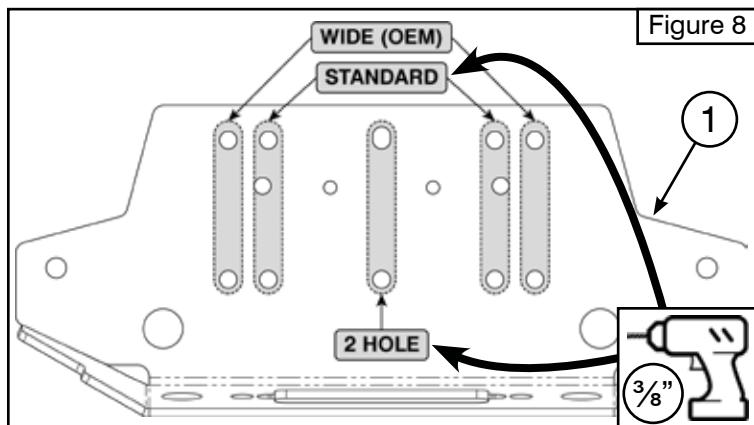

Figure 8
1. To install a standard or 2 hole winch, position the Winch Mount (1) on the bumper using the wide OEM holes for alignment. Insert the winch bolts downward through the wide holes to help hold the Winch Mount (1) in place. Mark the required winch mounting holes on the bumper based on the winch being installed. Refer to the hole patterns in **Figure 8**. Remove the mount and drill the marked holes using a 3/8" drill bit. Make sure the marks are accurate and straight.